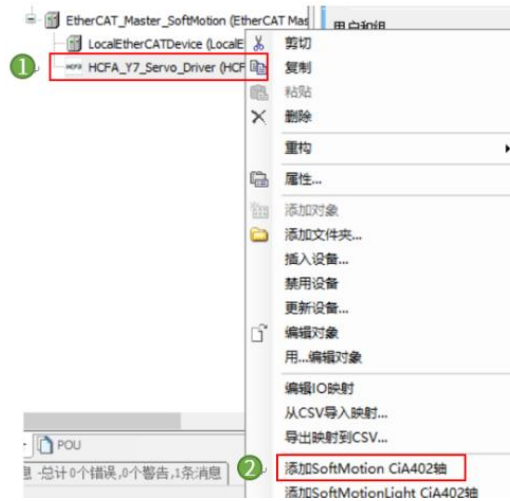

Figure 13-10 CiA402 axis adding
4. Right-click [HCFA Y7 Servo Driver], select [Add SoftMotion CiA402 axis], as shown in Figure 13-10.